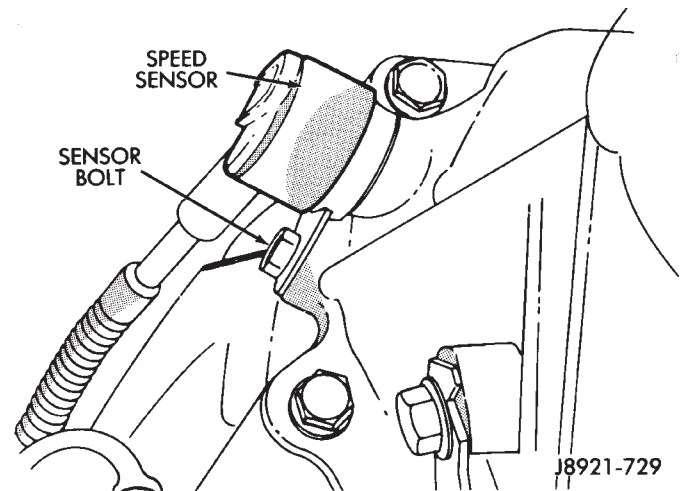

Fig. 66 Installing Transmission Speed Sensor
(89) Install adapter housing on transmission. Tighten adapter bolts to 34 N·m (25 ft. lbs.) torque.
(90) Install transmission speed sensor (Fig. 66). Tighten sensor bolt to 7.4 N·m (65 in. lbs.) torque and connect sensor wire harness connector.